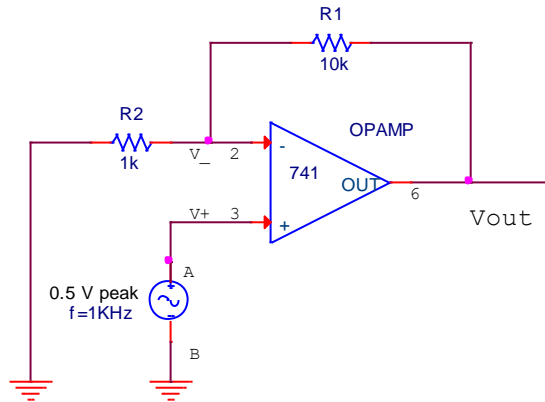

Figure 4 Non-inverting Amplifier Circuit
Figure 4 shows the basic op-amp circuit, the non-inverting amplifier.
Refer to rule 2 which states that $V_+ = V_-$ and from Figure 4 it is clear that $V_+ = V_{AB}$. Applying rule 2 leads to $V_- = V_{AB}$. The above equation simplifies to
2. Build the non- inverting amplifier circuit shown in Figure 4.